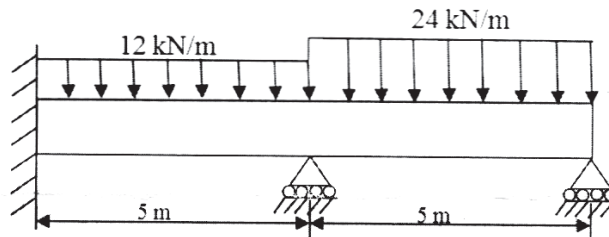

Figure 1
b) Find slopes and deflections of beam subjected to uniform distributed load as shown in Figure 1. Take modulus of elasticity,  $E = 2 \times 10^{11} \text{ N/m}^2$  and  $I = 5 \times 10^{-6} \text{ m}^4$  [12]